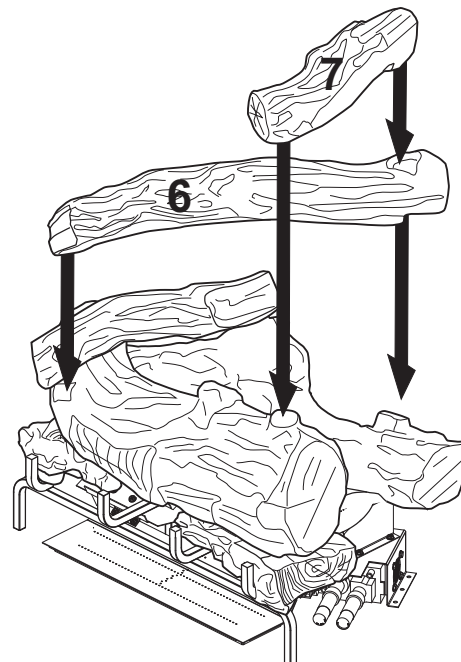

Figure 26 - Installing Logs #6 and #7
6. Place top middle log (#6) onto rear log (#1) and front log (#3). Match square peg on bottom of log #6 with square hole on log #4 and round hole on log #6 with peg on log #1 (see **Figure 26**).
7. Place top right log (#7) onto top middle log #6 and front log (#3) matching peg on bottom of top right log #7 with hole on top middle log #6 and hole in top right log #7 with peg on front log (#3) (see **Figure 26**).